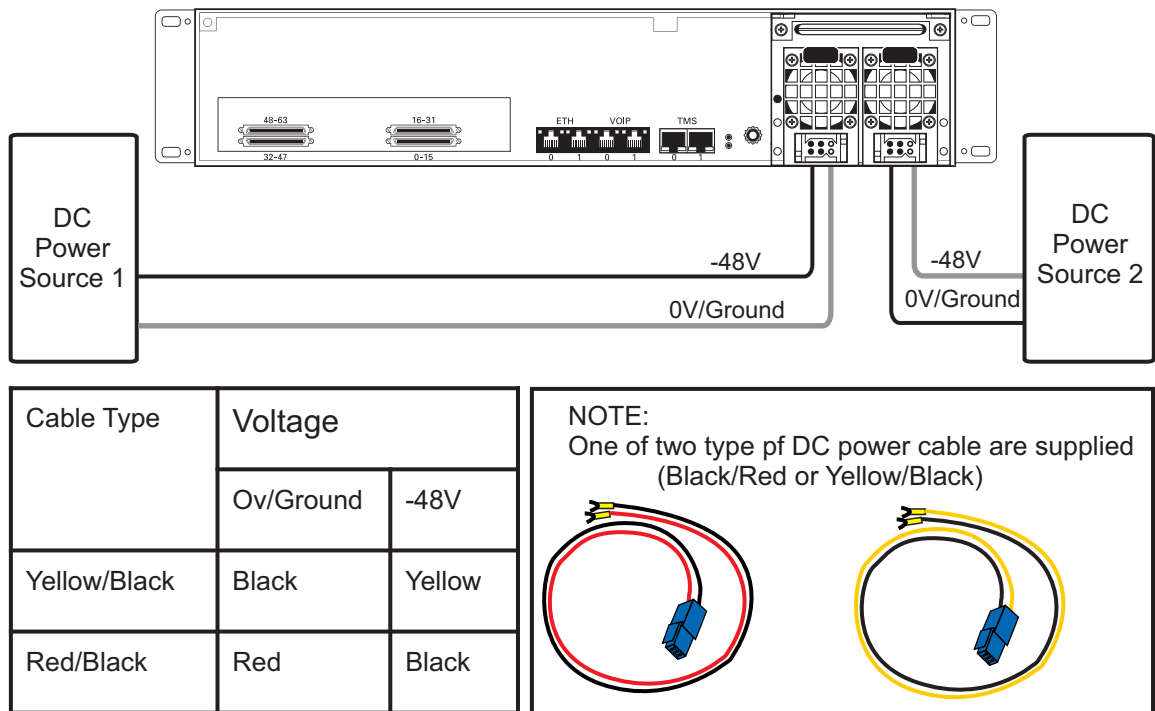

Figure 4.12 DC Power Connection
1. Connect one DC cable, supplied with the 7800 Telecom Unit, as shown in figure 4.12 on page 37, to the DC outlet at the rear of the 7800 Telecom Unit.
**Note** Two types of cable with different coloring are available. Refer to figure 4.12 on page 37 for the appropriate wiring information.